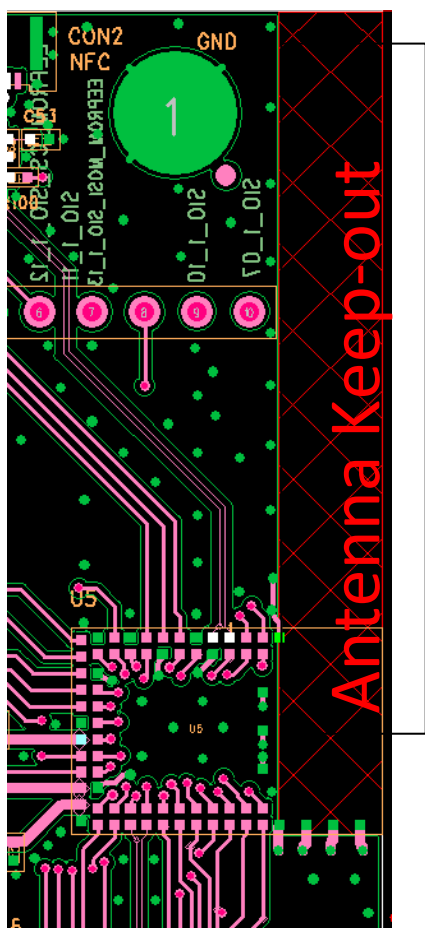

Figure 8: PCB trace Antenna keep-out area (shown in red), corner of the BL654 development board for the 451-00001 module.
- The BL654 development board has the 451-00001 module on the edge of the board (not in the corner). The antenna keep-out area is defined by the BL654 development board which was used for module development and antenna performance evaluation is shown in Figure 8, where the antenna keep-out area is ~TBD mm wide, TBD mm long; with PCB dielectric (no copper) height 0.85 mm sitting under the 451-00001 PCB trace antenna.
- Host PCB land pattern and antenna keep-out for the BL654 applies when the 451-00001 is placed in the corner of the host PCB. When the 451-00001 cannot be placed as such, it must be placed on the edge of the host PCB and the antenna keep out must be observed. Figure 8 shows an example.